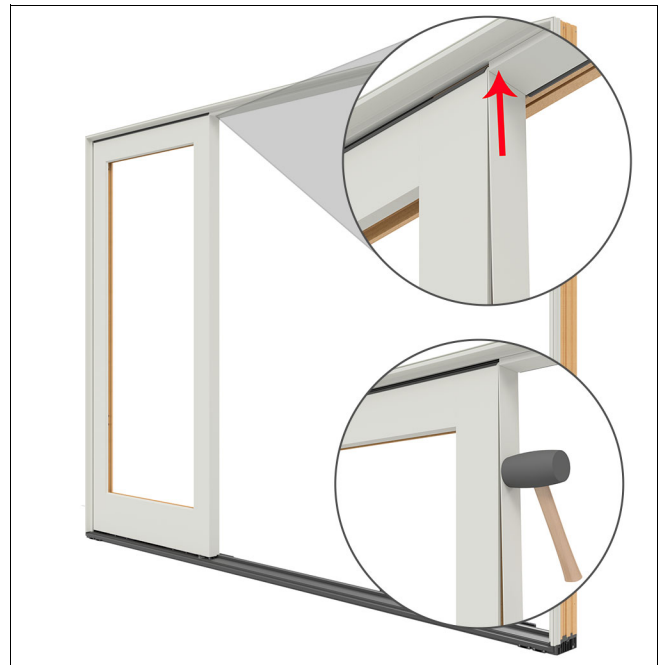

Figure 20
9. Install the aluminum stationary stile edge cover. The edge cover will slide up in between the head jamb parting stop and the stationary panel. Tap into place with a rubber mallet. See Figure 20.